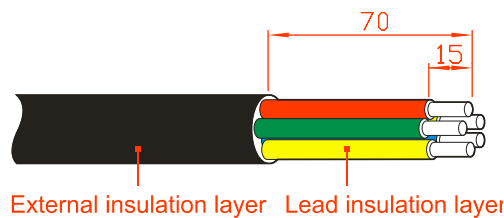

Figure3-22 Stripping diagram of AC output (unit: mm)
Step 1 Strip the external insulation layer of AC cable for about 70mm, strip the inner lead insulation layer for about 15mm, as shown in Figure3-22.